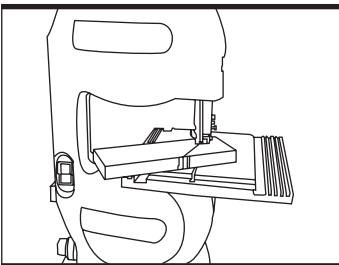

Fig 22
4. Freehanded cuts (See Fig 22)